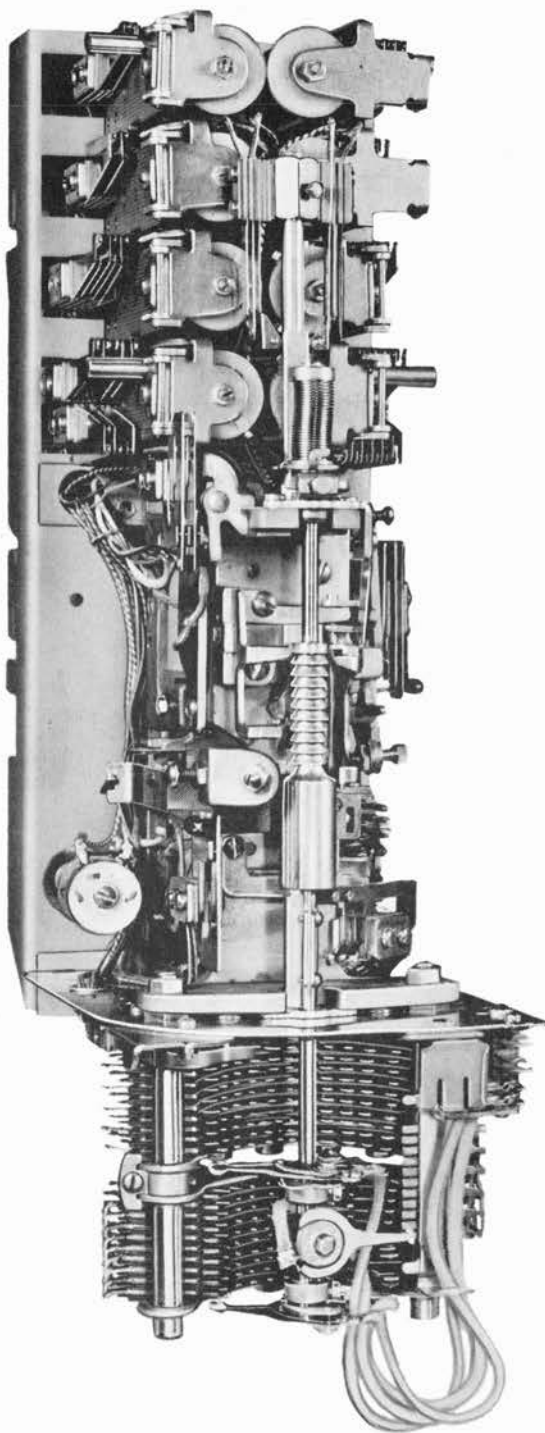

Figure 26. Typical selector.
(1) Plug the hand test telephone into test jacks 1 and 2 of the selector under test (figure 26). The selector is seized. Listen for dial tone.
(2) Connect the clip of test cord H-74573-1 to (+) battery. Place the probe on selector C wiper.
(3) Dial the selector vertical; the switch cuts in to rotate its wipers to the 11th position. Busy tone is received.
(4) Remove the hand test telephone and test cord; the selector releases.